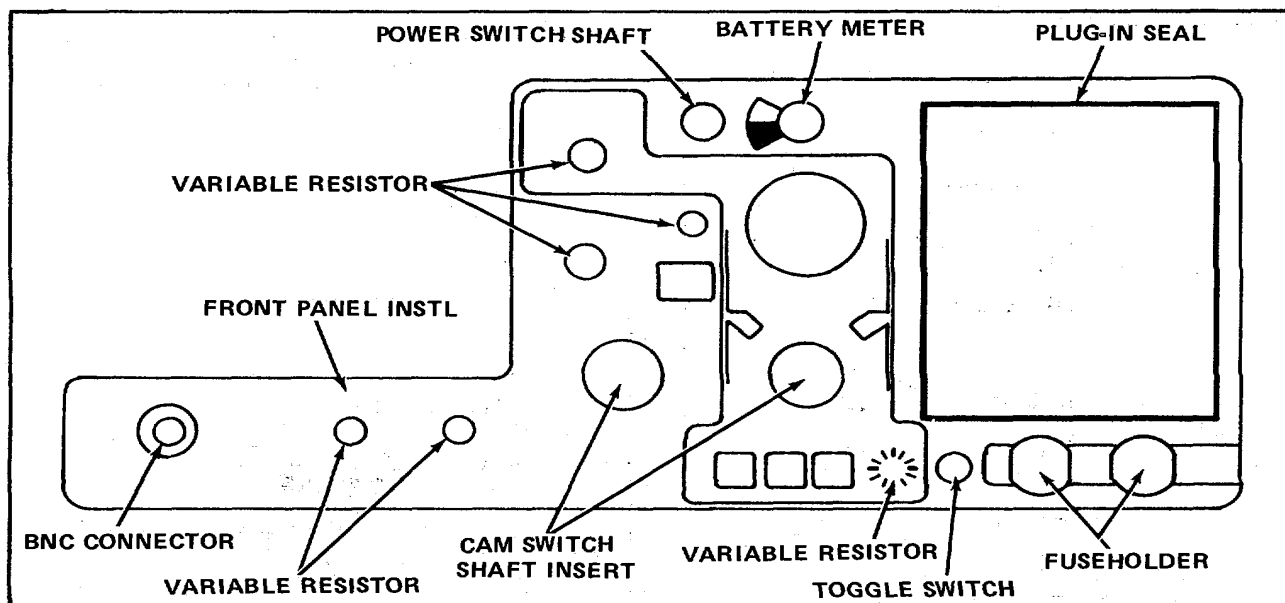

Figure 5-8. Front Panel, Identification of Parts For Assembly Step 8 Through 26.
8. Preparation of Front Panel for assembly (see Fig. 5-8)